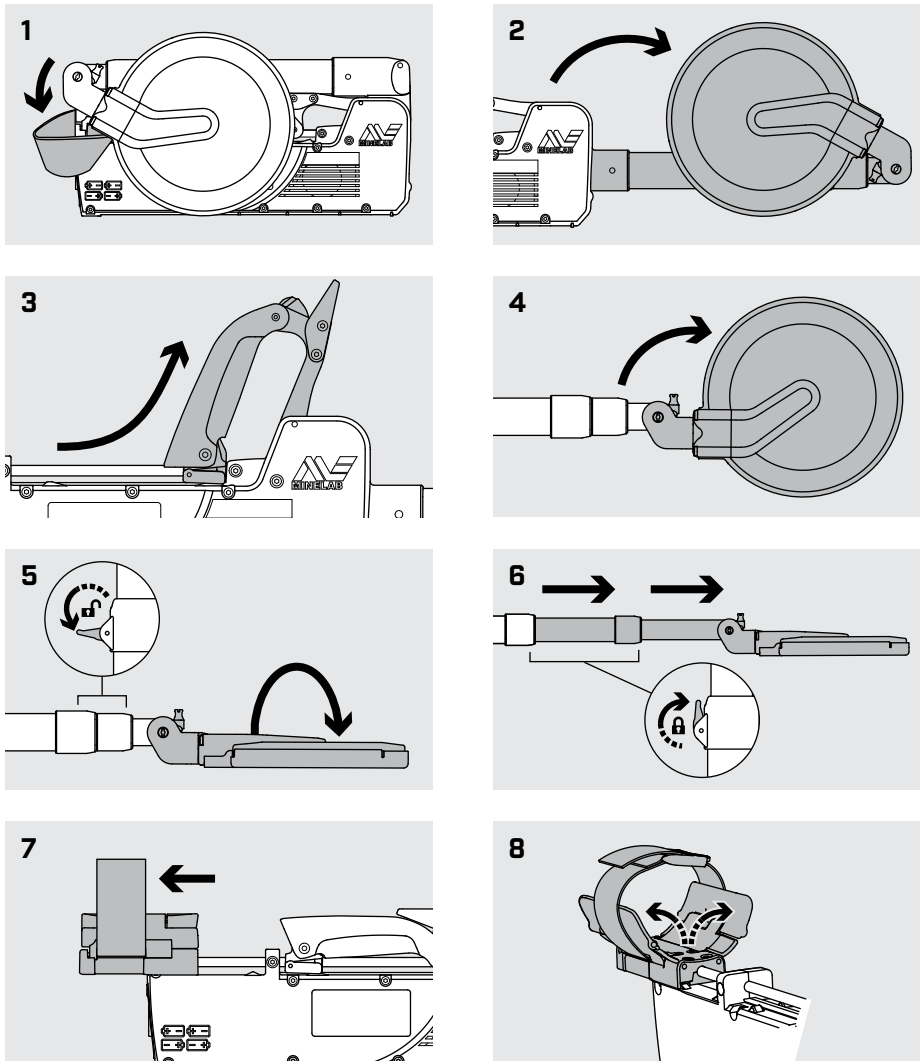

Figure 5: Guide to unfolding and adjusting the F3 Compact
- e. Using Figure 5 as a guide, unfold and adjust the detector.